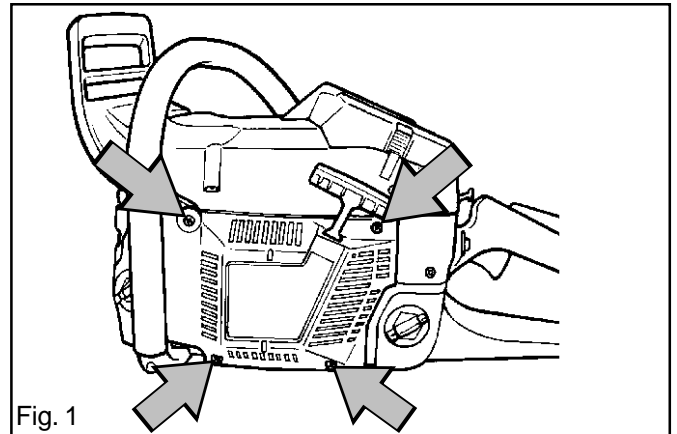

Fig. 1
1. Remove the four bolts holding the starter to the crankcase and remove the starter. See fig. 1.
8. Fit the starter on the crankcase. Tighten the bolts to 4 Nm. See fig. 1.
2. Release the blue lead (A) (which connects to the stop button) from the ignition module (B). See fig. 1.
3. Remove the ignition cable (C) from the spark plug and release both cables from the cable guide (D), and lift off the cable guide. See fig. 1.
4. Remove the two M5 bolts and lift off the ignition module (B). See fig. 1.
5. Remove the two pawls (E) for the starter. See fig. 1 and fig. 6.
9. Fit the cable guide (D page 21 fig. 1) and press on the ignition cable. Connect the ignition cable to the spark plug.
10. Pull out the cable and press home the cable clip (F) on the ignition module. See fig. 1.